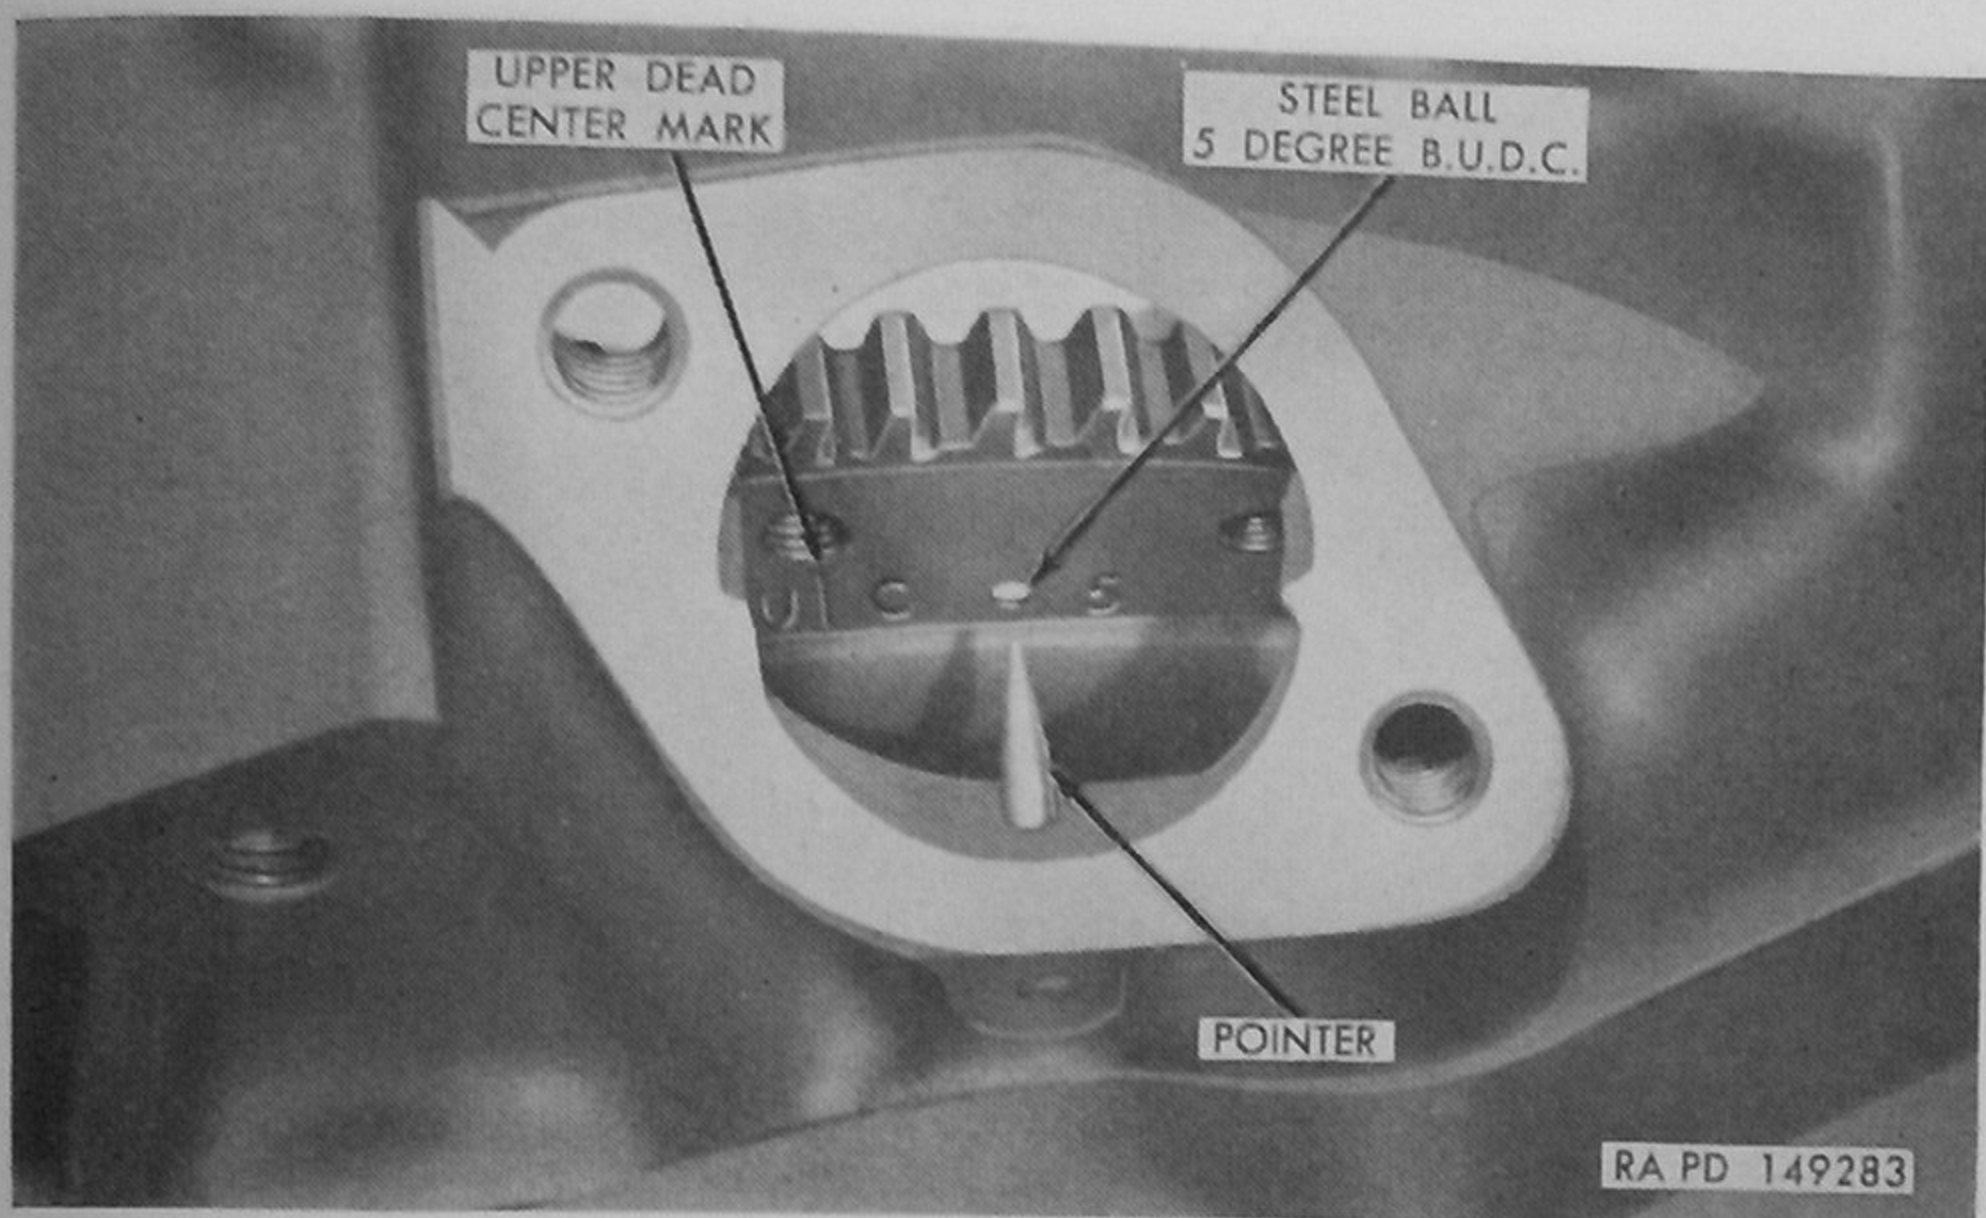

Figure 175. Timing marks on flywheel.
*b.* Turn engine to firing position on No. 6 cylinder, with both intake and exhaust valves closed on No. 6 cylinder and with timing pointer alined with steel ball (fig. 175) in flywheel, or with timing indicator (fig. 185 or 186) at front of engine alined with timing notch on crankshaft pulley.